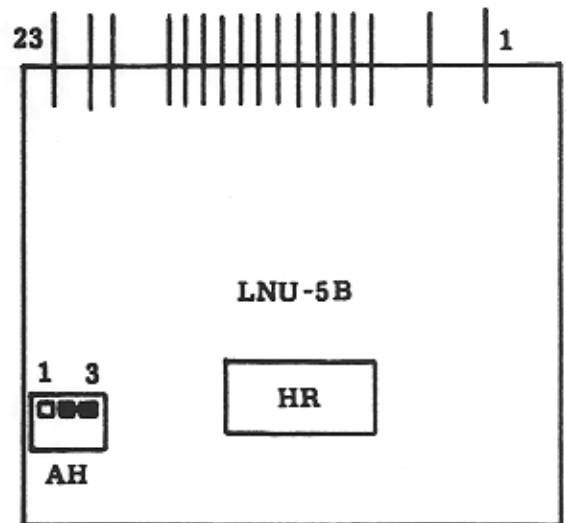

Figure 7 - LNU-5B Card Layout
4.30 An AH option connector has been added to the LNU-5B card to provide the 90 msec or 600 msec automatic release time on held calls. Figure 7 shows the layout of the LNU-5B and AH option connector location.